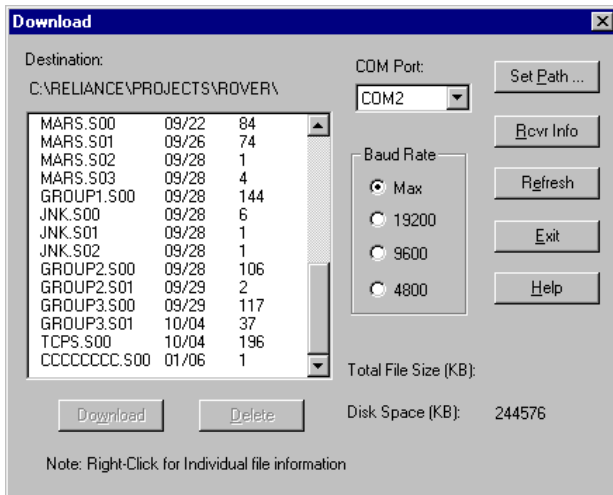

Figure 4. Sample “Download” window.
- Click on the button that corresponds to the second option on the “Transfer Data” window (i.e., “Download GPS data from the GPS receiver”). You will need to “ensure that the GPS receiver is connected”. If the connection between the receiver of the roving unit and the computer is set correctly, you will see a window similar to the one depicted in Figure 4 showing the recorded files on the receiver of the roving unit.